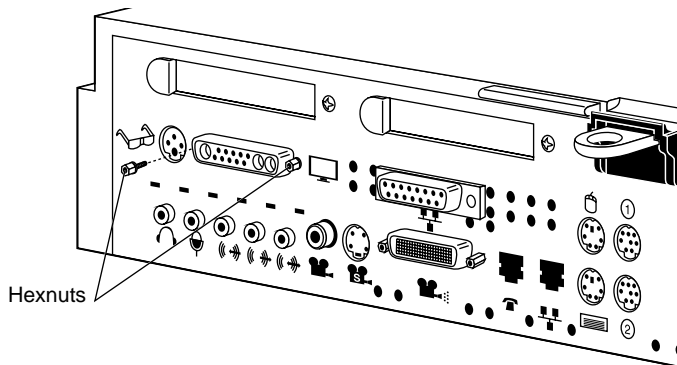

Figure 17 Replacing the screws on the graphics board's I/O connector
4. Insert the two hexnut screws on either side of the graphics board's I/O connector on the rear of the chassis, as shown in Figure 17. Use the open-ended wrench provided with this upgrade to tighten the two hexnut screws.